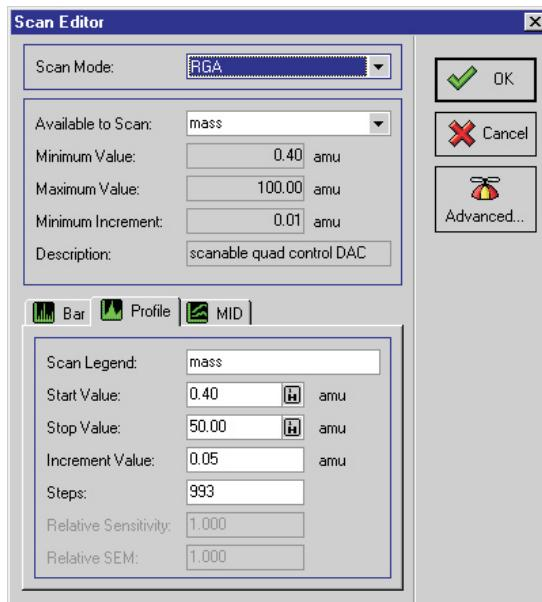

Figure 51 Scan Editor dialog for the helium scan
5. In the scan tree double click the **Scan 1: mass** box. The **Scan Editor** dialog box will be displayed, see Figure 51.